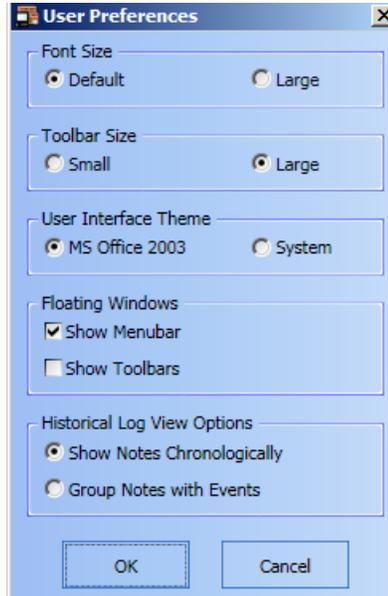

Figure 3-9 TSW Preferences Dialog Box
2. From the list of commands displayed, click on **User Preferences**. A **User Preferences** dialog box appears (Figure 3-9). From this point, you may set the display preferences.